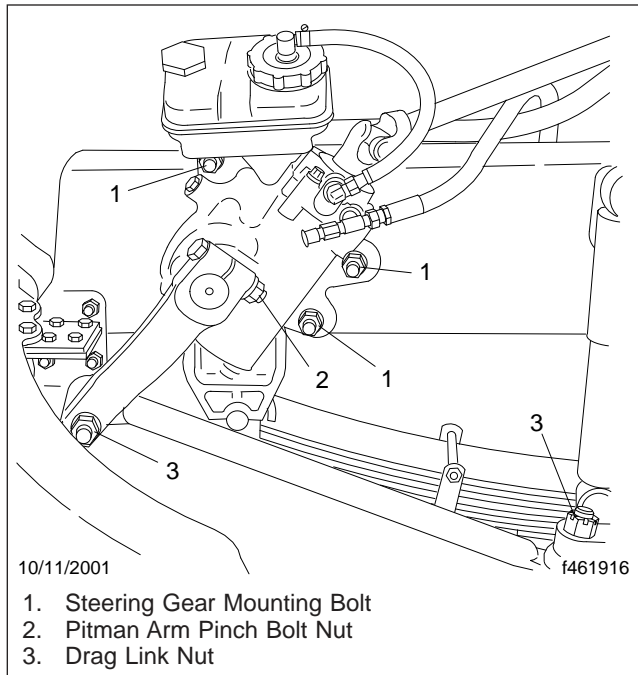

Fig. 21.14, Steering Gear Fasteners
5. Inspect the steering components. See Fig. 21.14.